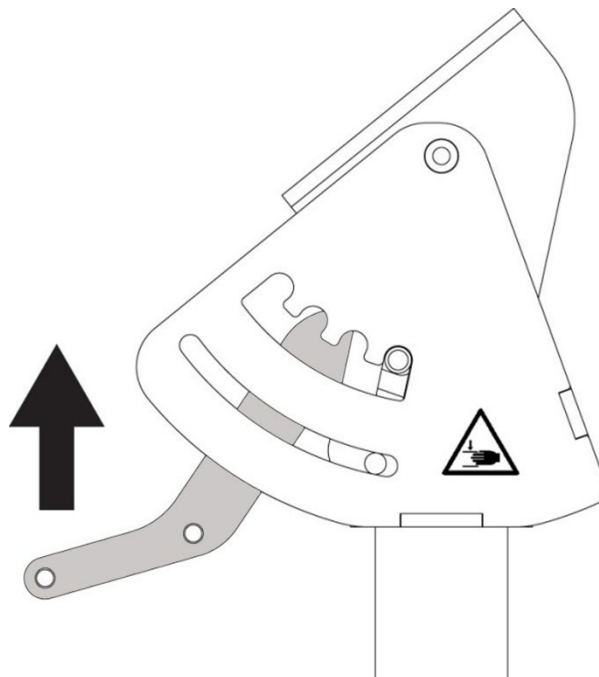

Figure 20 Dispenser Head Angle Adjuster Handle Locked
2. Rotate the **Dispenser Head** to the preferred Output Chute position (refer to Figure 20).